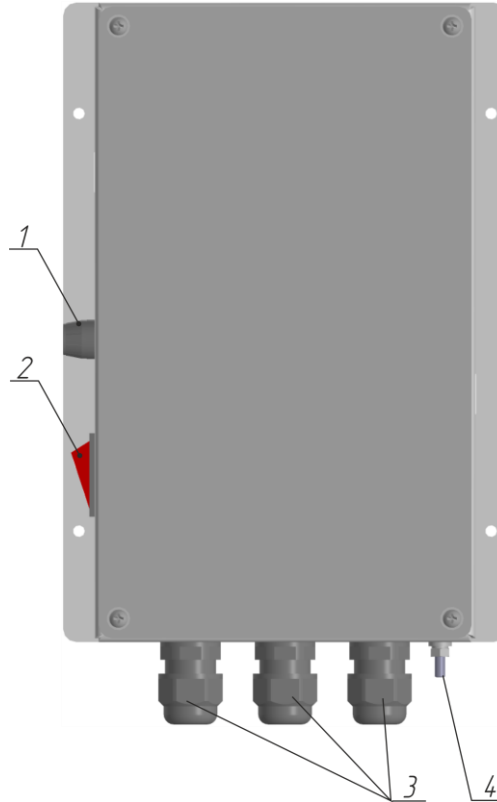

Figure 1 – the Product
1.3.1 The Product is manufactured in metal casing, where a piano type power switch on (off) and fuse holder are located, see Figure 1.
Note – See positions (№) in Figure 1.